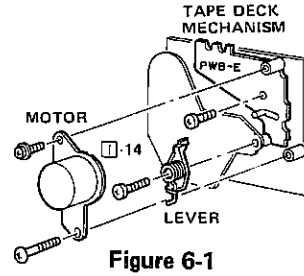

Figure 6-1
- Remove one screw from the record selector lever, two screws from the motor bracket and one screw from the P.W.B. shown in Figure 6-1. Then take the P.W.B. off.